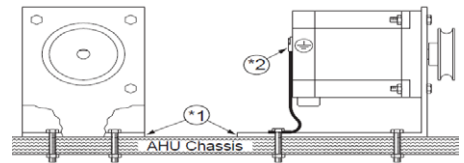

Fig. 12 Stepper motor, its mounting and grounding
- To ensure the best use of advanced drive ratio control technology and to avoid false alarms and errors, follow the stepper motor installation instructions. The motor has four screw holes for mounting on the mounting plate. The plate in turn must be fixed to the heat exchanger housing or the air handling unit wall. No vibration dampers or springs may be used (see Fig. 12; marking *1).
Use the OJ-DRHX terminals and connectors to obtain the correct earthing (see Fig. 12, designation *2). Avoid serial connections and earth wires should be as short as possible. Remember to ground the motor in accordance with current regulations.